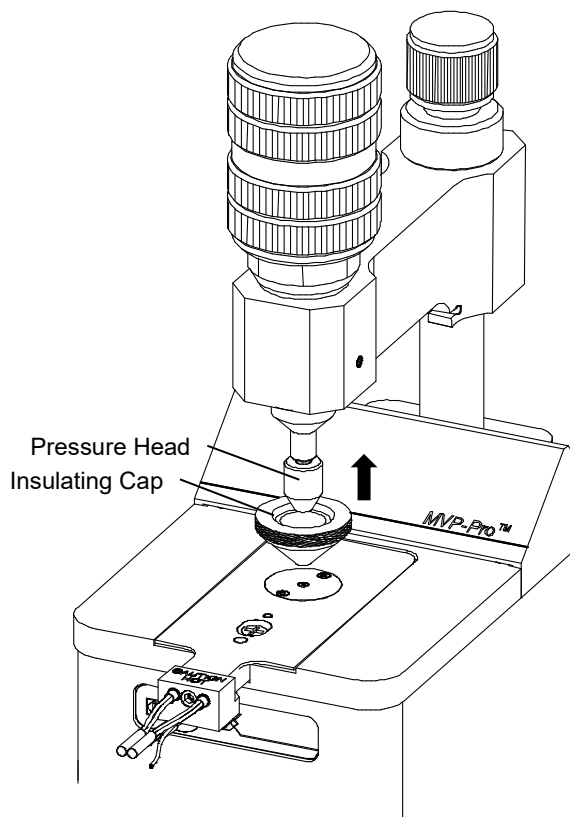

Figure 18 • Installing the insulating cap on the pressure applicator
- If the sample is a solid sample, raise the pressure head and slip the insulating cap over the head. While continuing to grasp the cap, lower the pressure head and compress the sample against the ATR crystal. See Figure 18.